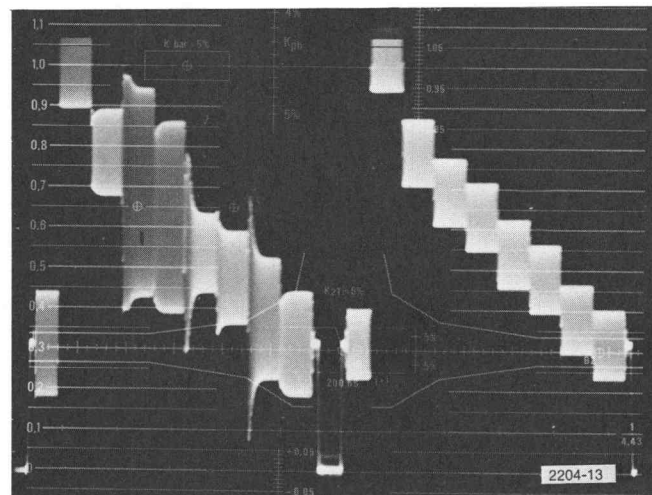

Fig. 1-14. D'R line normal D'B line constant amplitude subcarrier.
6. D'B: Set the D'B switch to OFF and observe that the D'B line now has constant amplitude subcarrier for the duration of the line. See Fig. 1-14.